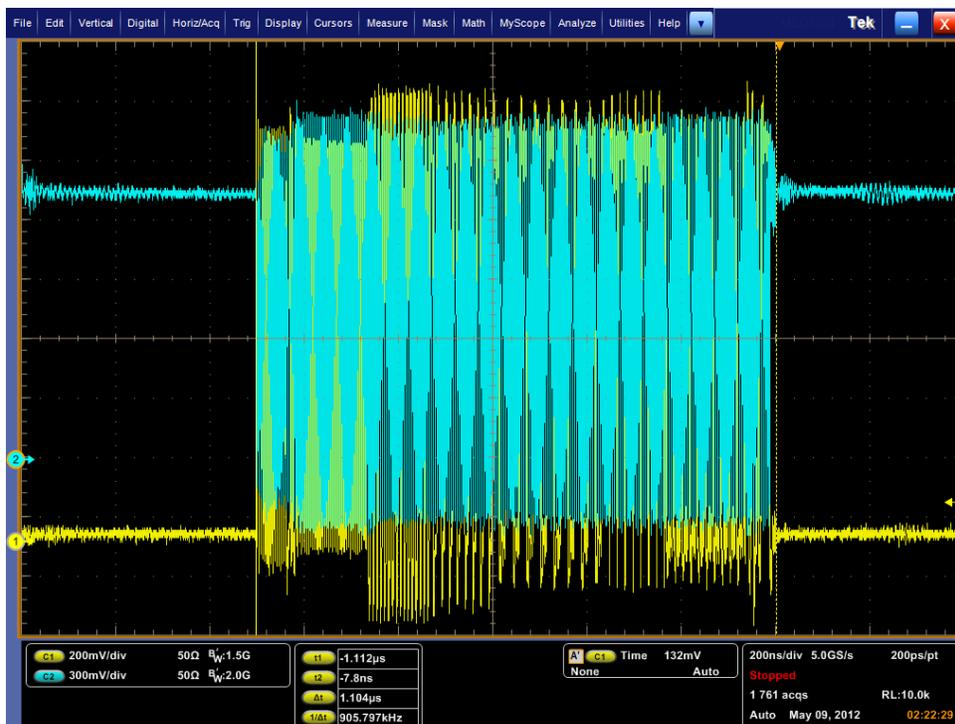

Figure 4 Signal Quality
5. After the setup has been completed, click on the single button in DPOJET. The waveform captured will be as shown in Figure 4.